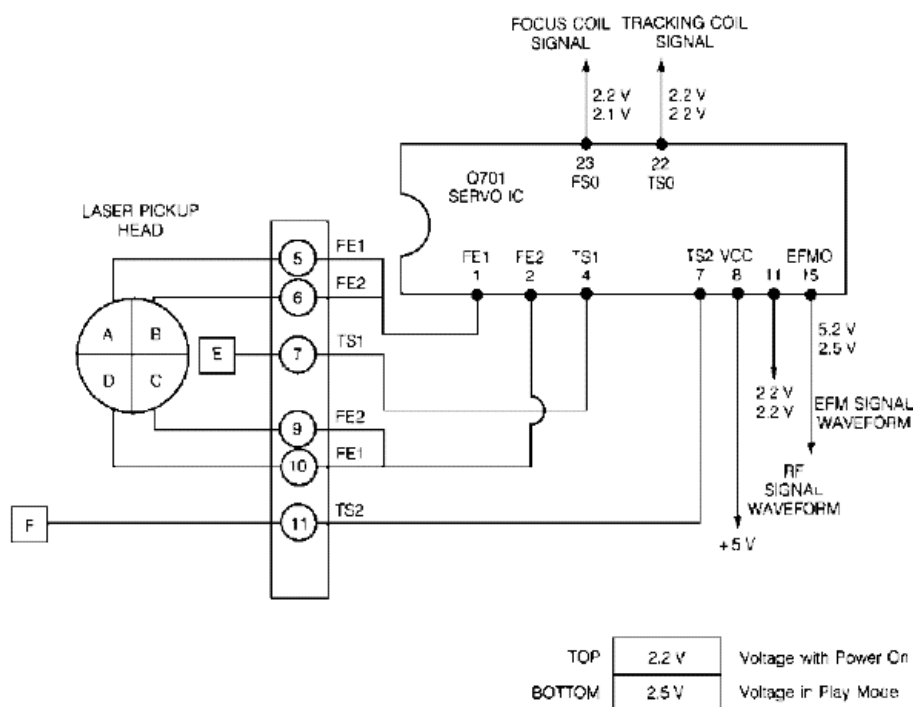

FIGURE 30-35 Servo IC (Q701) controls the signal and servo-processing circuits.
The signal-processing circuits are similar to those in any CD player. The photodetector diode signal is fed into terminals 1, 2, 4, and 7 of Q701 (Fig. 30-35). Besides sending the EFM output signal (pin 15) to Q702, the tracking servo amp output (pin 22) and focus servo amp output (23) are controlled by the signal-processing circuits.